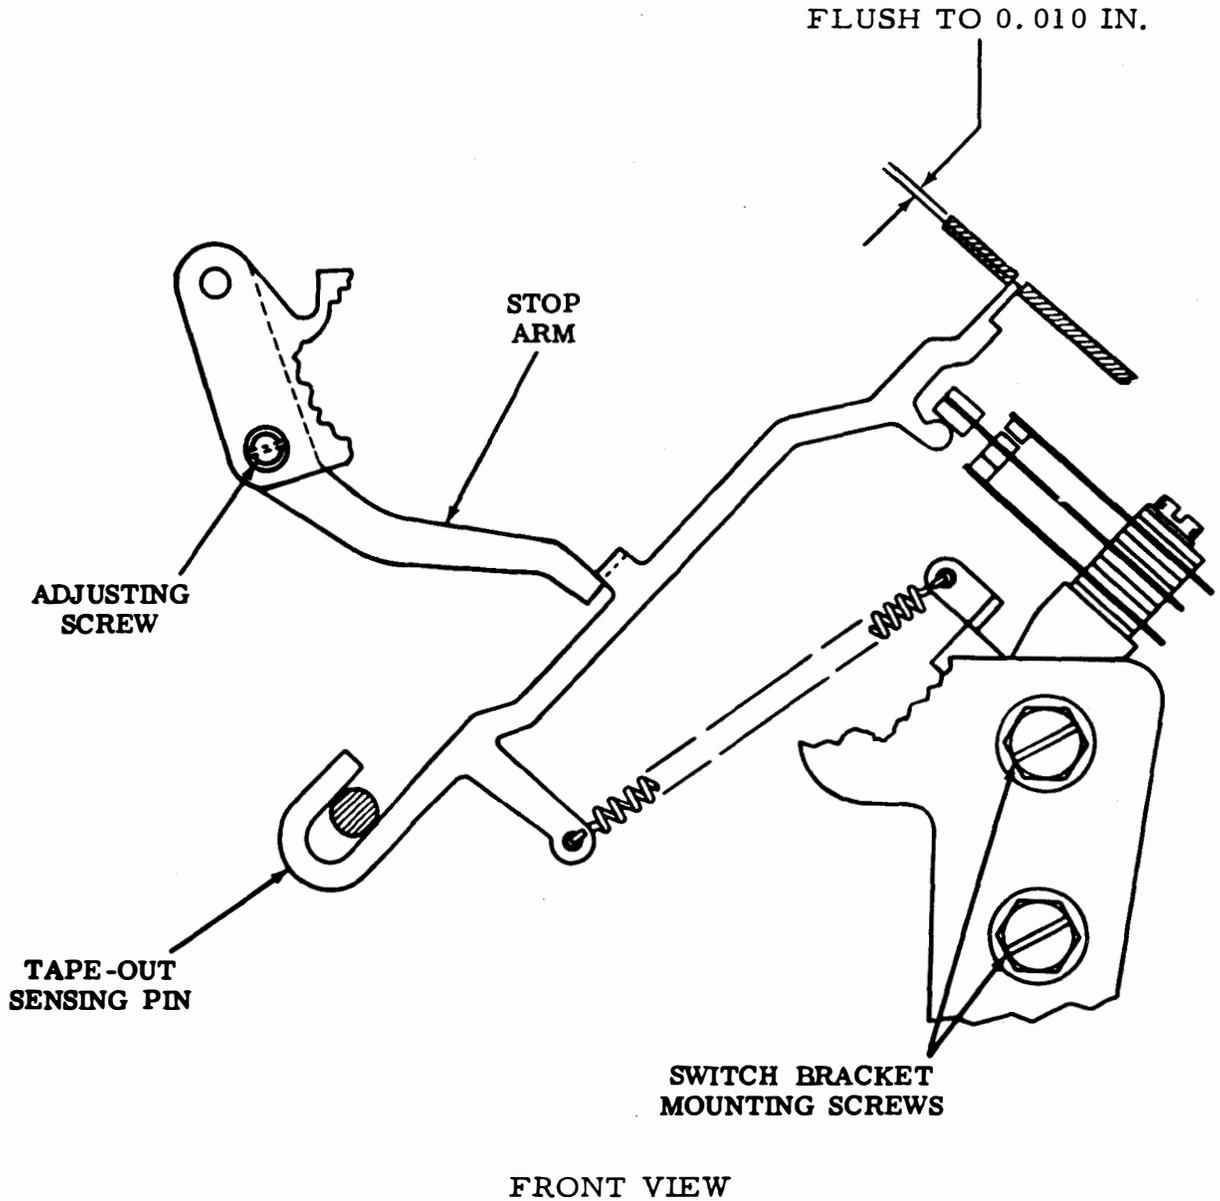

Figure 6-18. Tape-Out Sensing Pin (For Units Equipped With Tape Lid Sensing Lever)
(7) Tape-Out Sensing Pin (For Units Equipped with Tape Lid Sensing Lever). Adjust tape-out sensing pin as follows:
- (a) Refer to figure 6-18.